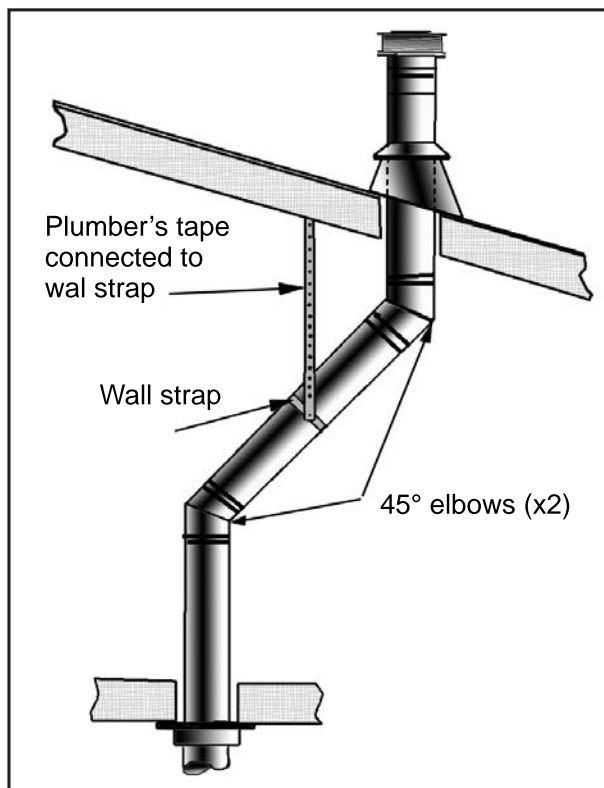
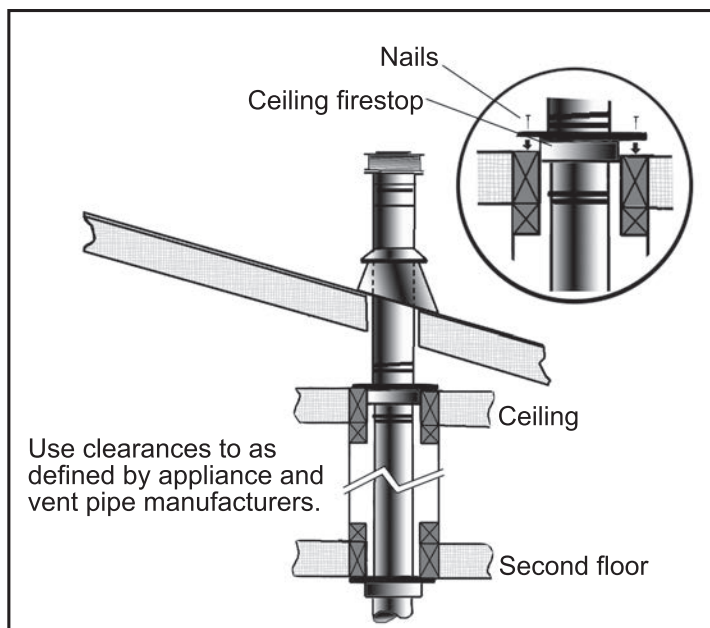

Figure 37: Use of Wall Straps.
Figure 38: Multi-Story Vent Pipe Installation
- Step 8.** Continue to add pipe sections until the height of the vent cap meets the minimum code requirements. Refer to Figure 37 and Table 7. Note that for steep roof pitches, the vent height must be increased. In high wind conditions, nearby trees, adjoining roof lines, steep pitched roofs, and other similar factors can result in poor draft, or down drafting. In these cases, increasing the vent height may solve the problem.
Table 7: Minimum 'H' for Figure 37.
- (1) If an offset is necessary in the attic to avoid obstructions, it is important to support the vent pipe every **3' (914 mm)**, to avoid excessive stress on the elbows, and possible separation. Wall straps are available for this purpose (see Figure 37).
- (2) When ever possible, use 45° degree elbows instead of 90° degree elbows. The 45° degree elbow offers less restriction to the flow of flue gases and intake air.
- (3) For multi story installations; a ceiling firestop is required at the second floor, and any subsequent floors (see Figure 38). The opening should be framed to **10" (254 mm) x 10" (254 mm)** inside dimensions, in the same manner as shown in Figure 29.
The placement of the logs is not arbitrary. If they are positioned incorrectly, the flames can be "pinched" and will not burn correctly. All of the logs come with either a notch or ledge to make alignment easier. Using the pictures provided, carefully set the logs in place (see Figures 37 through 41).